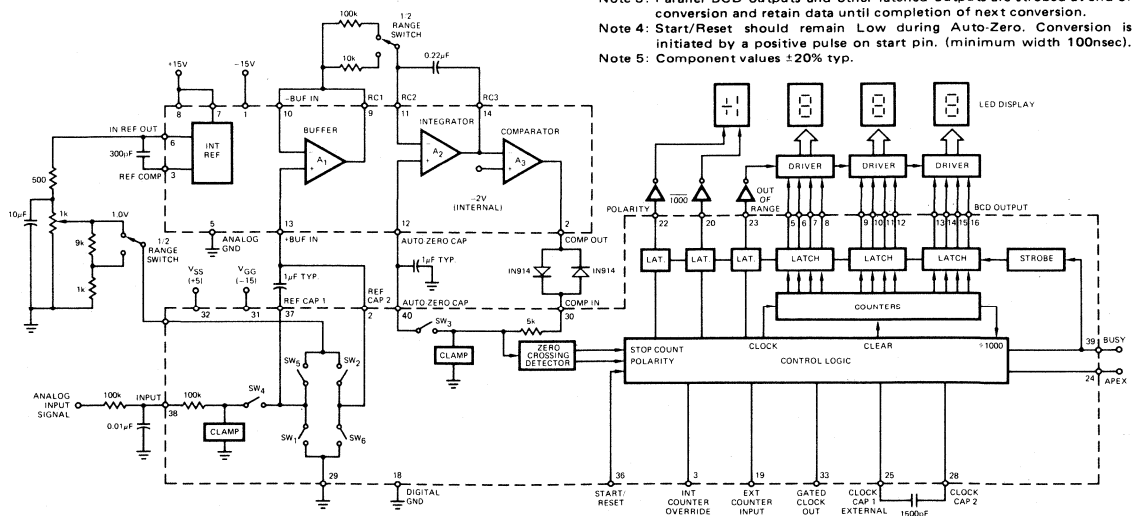

FIGURE 1. $3\frac{1}{2}$ DIGIT A/D CONVERTER FUNCTIONAL DIAGRAM
(1) Tested in 3 $\frac{1}{2}$ digit (2,000 count) circuit shown in Fig. 1 clock frequency 20kHz.
Figure 1 shows a typical circuit for a DVM. A minimum of external components is required since the chips have an on-board clock and a medium-quality ($40\text{ppm}/^{\circ}\text{C}$) internal reference. The circuit also shows the switching required for two scale factors: 2.000V and 200.0mV full scale.